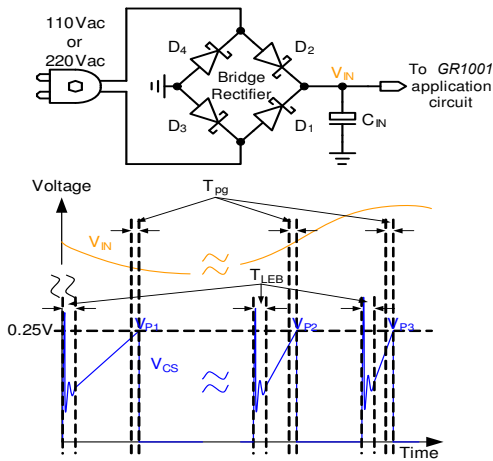

Figure-3 The brief schematic to explain the peak current detection and line voltage compensation.
In the Figure-3, a current flow through M_2 and R_S during the M_2 on period. This current caused the V_{CS} increasing, the comparator pass the peak current information to the control circuit to turn off M_2 while V_{CS} reach to 0.25V. The peak, I_{PK} , current could determine by (1):